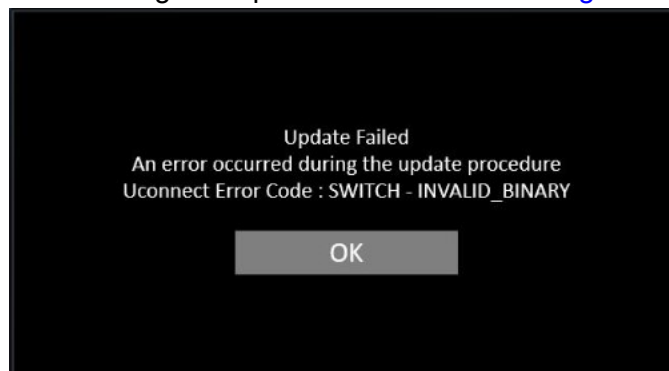

Fig. 5
16. Sometimes the radio will display an error pop up “SWITCH- INVALID_BINARY “ after successful radio update. Please ignore this error message and press “OK” to continue Fig. 5.